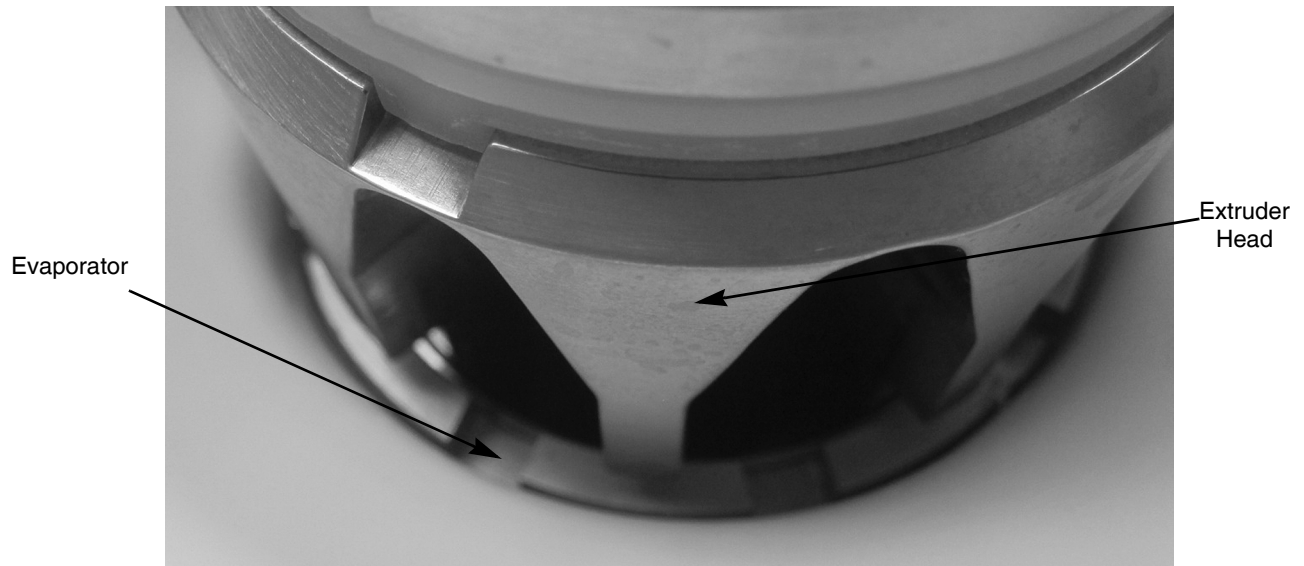

Figure 28.
- When the auger is lowered into the evaporator, rotate the auger to engage the motor drive shaft, see Figure 28.